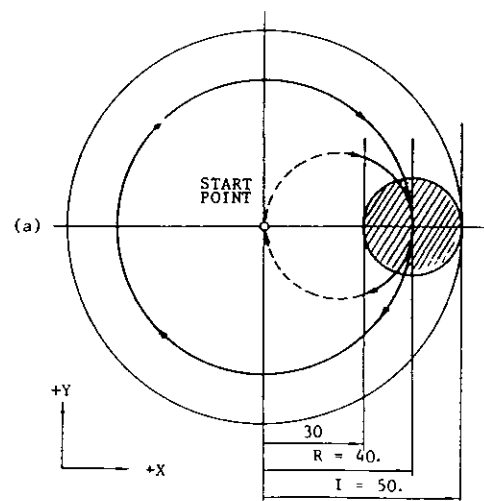

Fig. 2.24
- In the explanation above, only motions in the + direction of X-axis is considered. With proper use of signs for I, J, K and D codes, motions in the - direction of X-axis (symmetrical with respect to Y-axis) can be commanded. In Fig. 2.24, signs of I, R and D are minus. However, cutting in the Y-axis direction is impossible.